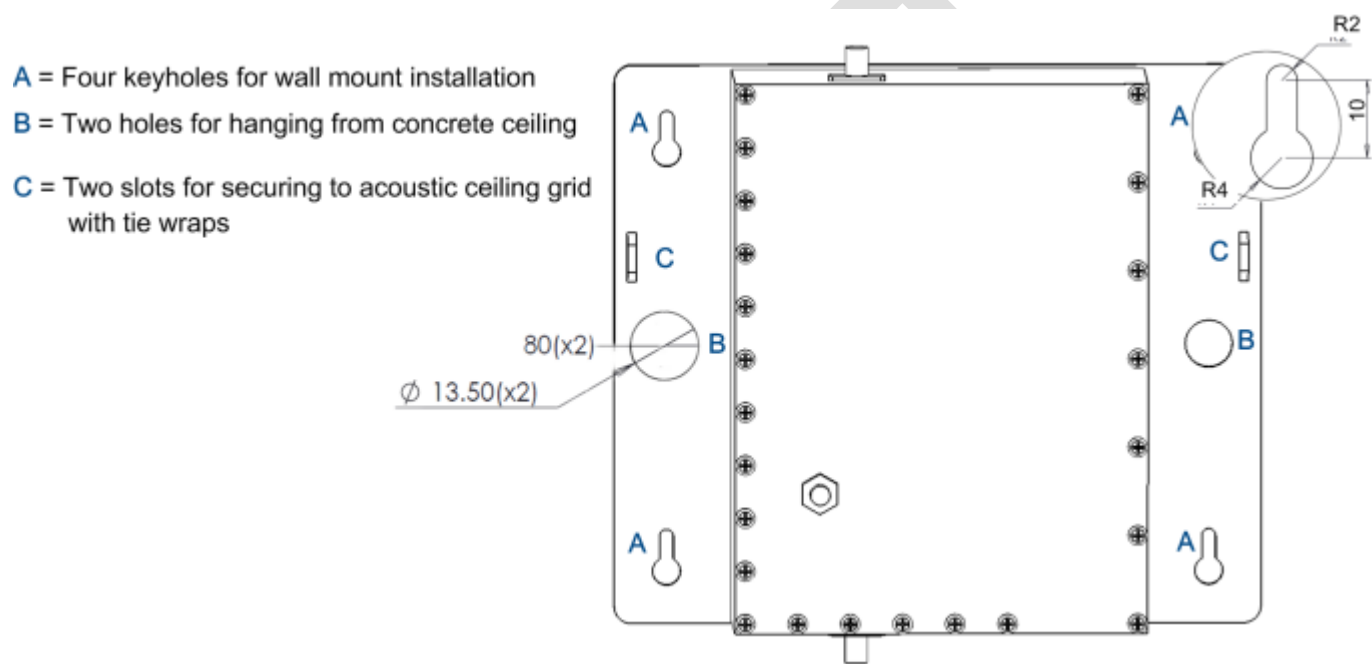
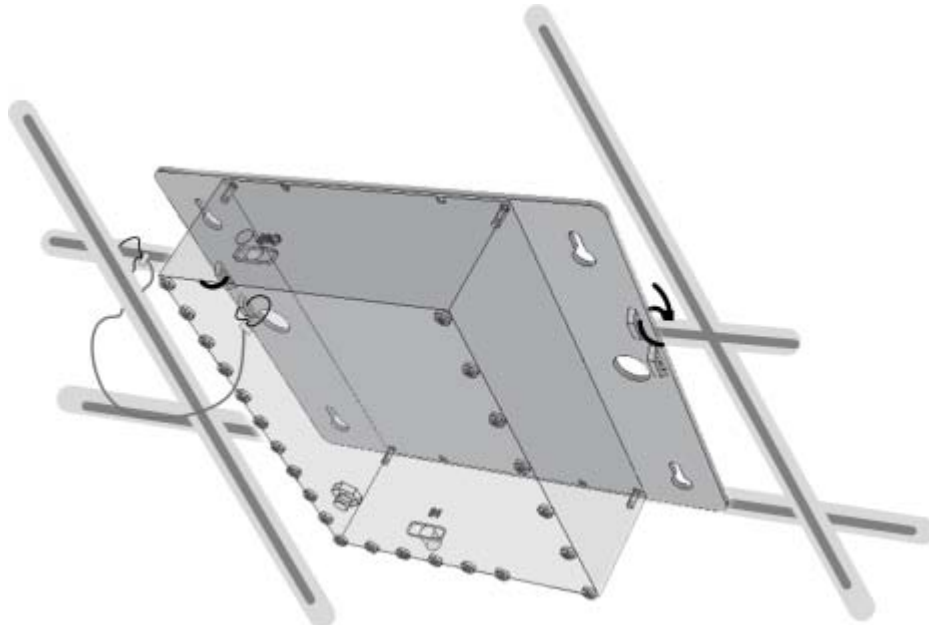

Figure 4-34. Cavity Filter Dimensions and Mounting Holes
Figure 4-36. Illustration of Cavity Filter Mounted on Acoustic Ceiling Grid
- The cavity filter mounting bracket supports wall/ceiling/acoustic ceiling installations. See Figure 4-34.
1. Using the two holes (Item B in Figure 4-34) as a guide, mark the location of the holes to be drilled in the ceiling.
In acoustic ceiling mount installations, the Cavity Filter can be fastened to the grid by slipping tie wraps through slits on the bracket (Item C in Figure 4-34) and securing the assembly to the grid with the provided safety cable. Refer to Figure 4-36.
1. Using the four key holes (Item A in Figure 4-34) as a guide, mark the location of the holes to be drilled in the wall.